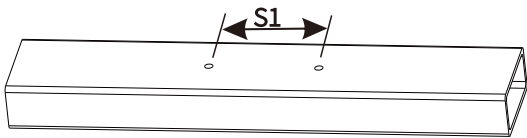

Figure 6
2. Drill two holes of distance S1 on the mounting bar (Figure 6).